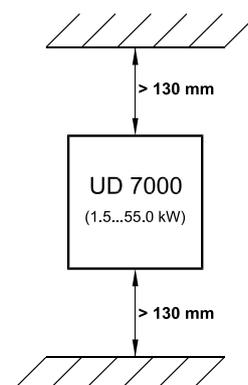

Figure 2.1
- B. The UD inverter generates heat and so there must be adequate space around the unit (see Figure 2.1). The inverters can be placed together in rows in their bookshelf housings. If the unit is accommodated in a housing together with another unit, the prescribed minimum clearances must be observed in order to guarantee corresponding ventilation.